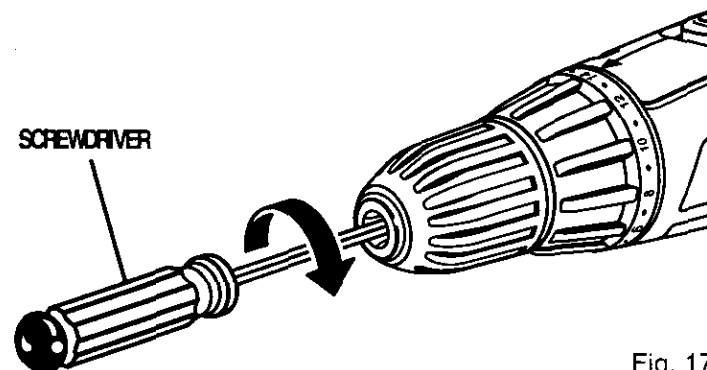

Fig. 17
- Open chuck jaws and remove allen wrench. Remove the chuck screw by turning it in a clockwise direction. See Figure 17.